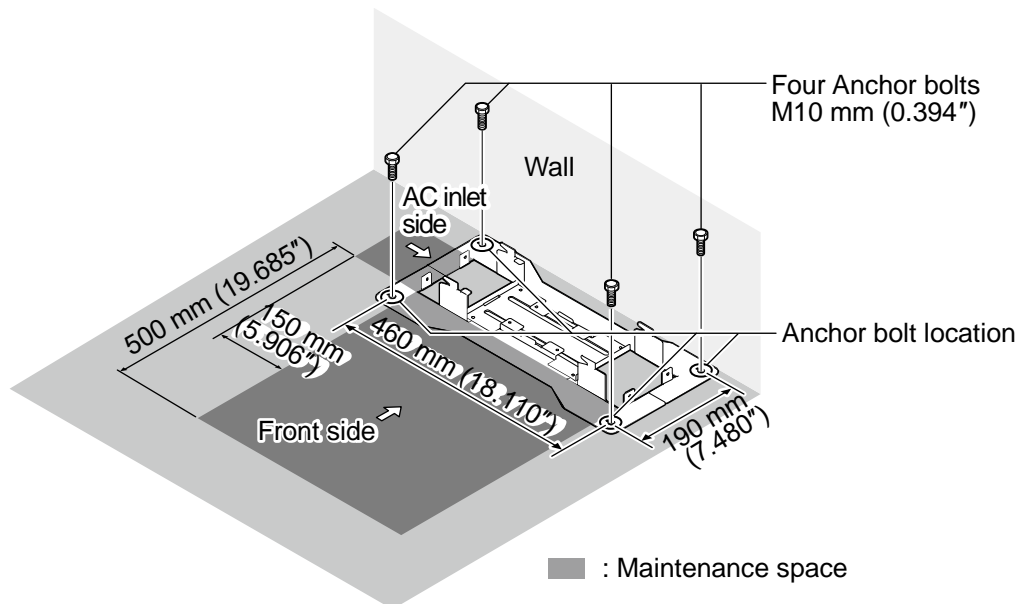

Figure 2-41 Floor-Mount Spacing Guide
2. Refer to Figure 2-41 Floor-Mount Spacing Guide for required spacing before drilling holes for 10 mm (0.394") anchor bolts (locally procured). Mark and drill the four holes required to install the FM/WM Base.